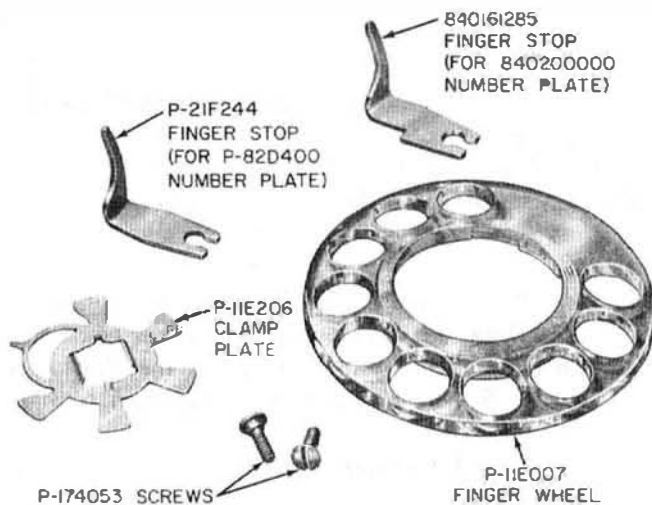

Fig. 2—7-Type Dial Adapter Parts
(3) 7-Type Dial: (Early Version), install dial number plate (ordered separately) using two screws from adapter parts. Install clamp plate, finger stop and finger wheel (Fig. 2). (Current version) requires the two tabs without holes be broken off universal dial number plate and parts shown in (Fig. 2) be used except for two P-174053 screws and P-21F244 finger stop. New P-17A422 ring assembly
and 840161285 finger stop (Fig. 2) are required. Provide station number card.